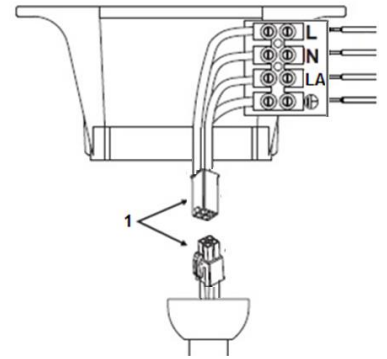

Fig. 12
- Connect the female plug (fan motor) and male plug (mounting bracket) together (1 – Fig.12).